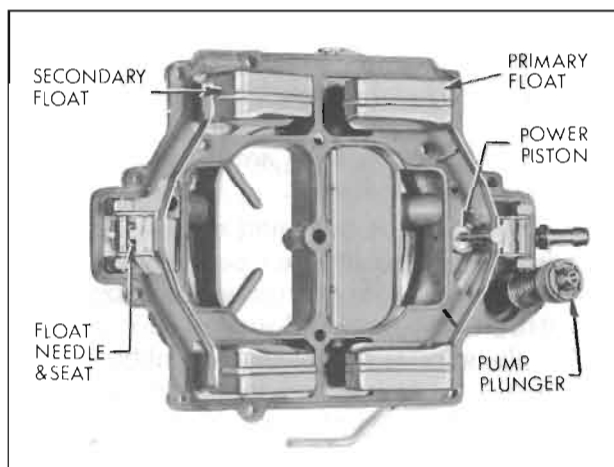

Figure 3-91—Air Horn Parts
5. Remove all air horn screws, then carefully lift air horn straight up from main body to avoid damaging floats, pump plunger, and vacuum power piston which are attached to air horn. See figure 3-91.
7. Remove float hinge pin, float needle, needle seat, and gasket from side opposite pump (secondary). Then remove needle seat strainer. See figure 3-91.